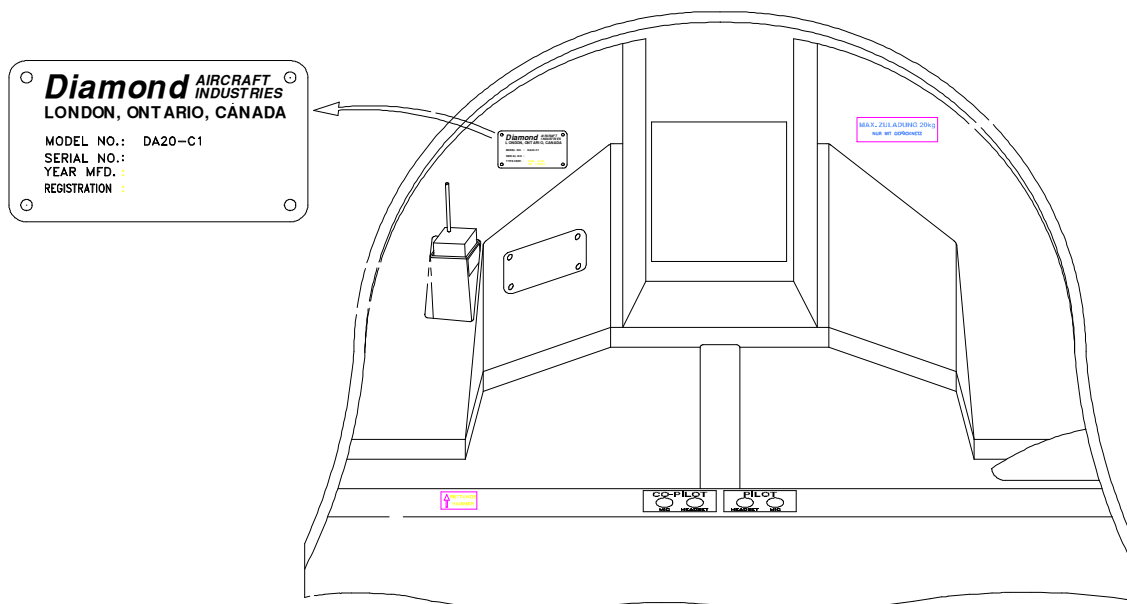

Figure 1
- 10.3 Fireproof Data Placard-** Remove existing data plate from LH aft fuselage. Data Plate (supplied in kit ref. P/N 22-1120-01-12) must be engraved or stamped with aircraft serial number, the year of manufacture and the German registration. Data plate must be permanently installed (ie blind rivets). Reference Figure 1 for location.